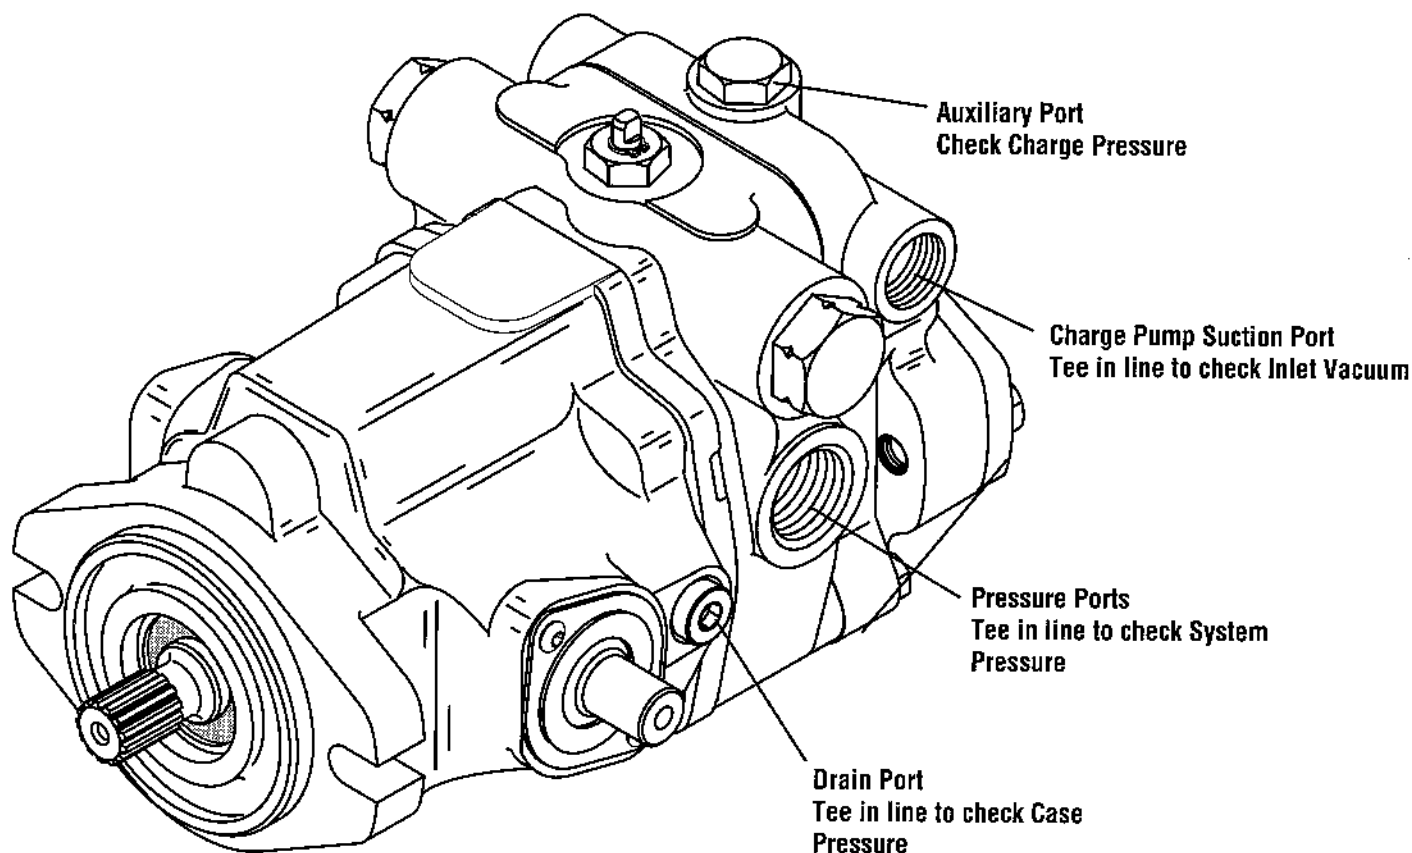

Figure 3-1
- a. See figure 3-1 for location of pressure gauge installation.